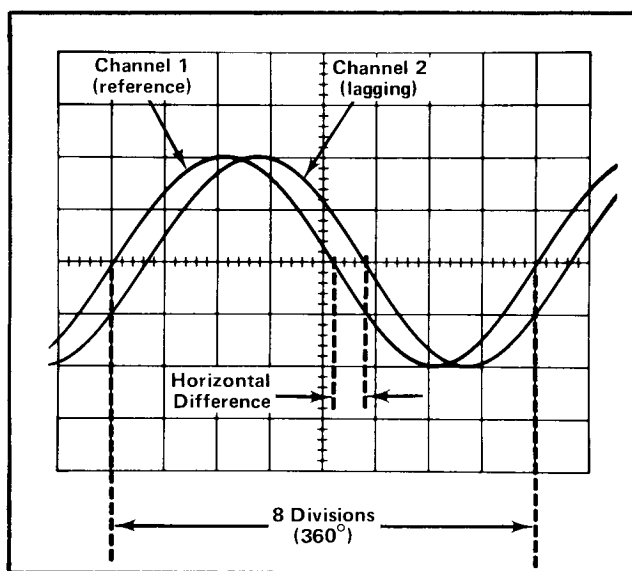
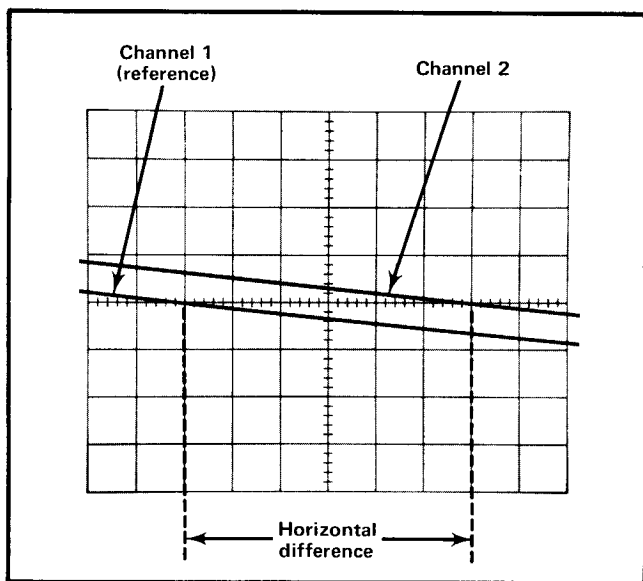

Fig. 2-26. Measuring phase difference.
Fig. 2-27. High resolution phase-difference measurement with increased sweep rate.
10. Turn the A VAR control until one cycle of the reference signal (Channel 1) occupies exactly eight divisions horizontally (see Fig. 2-26). Each division of the graticule represents 45° of the cycle ($360^\circ \div 8 \text{ divisions} = 45^\circ/\text{division}$). The sweep rate can be stated in terms of degrees as 45°/division.
Example. Assume a horizontal difference of 0.6 division with a sweep rate of $45^\circ/\text{division}$ as shown in Fig. 2-26.
Example. If the sweep rate were increased 10 times with the magnifier, the magnified sweep rate would be $45^\circ/\text{division} \div 10 = 4.5^\circ/\text{division}$. Fig. 2-27 shows the same signals as used in Fig. 2-26 but with the MAG switch set to X10. With a horizontal difference of six divisions, the phase difference is: